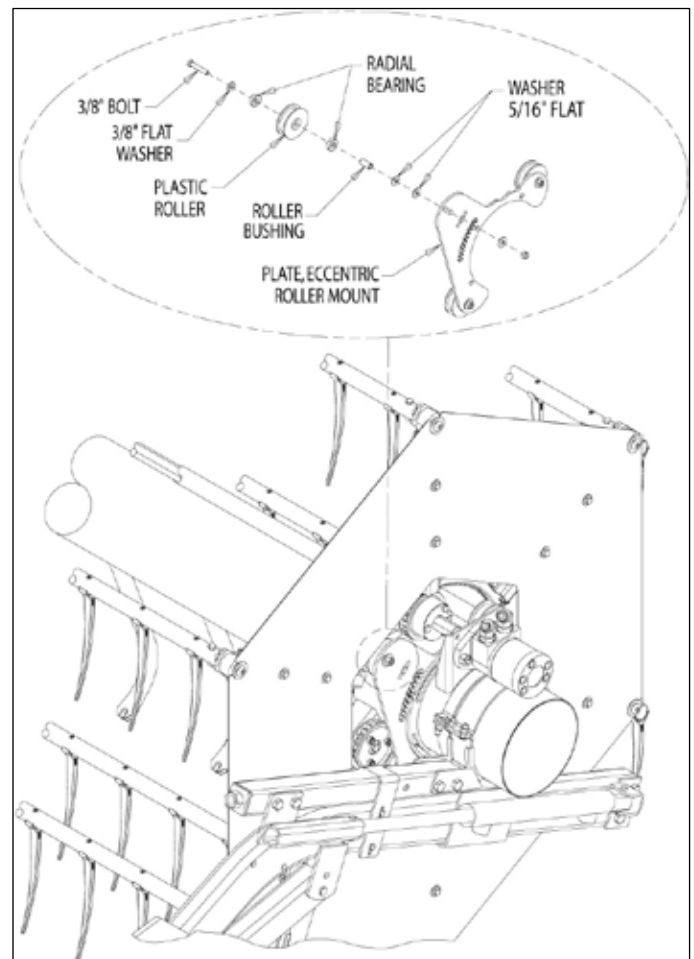

Figure 50, Reassemble eccentric roller assembly
5. Reassemble the eccentric roller assembly as shown in Figure 50.